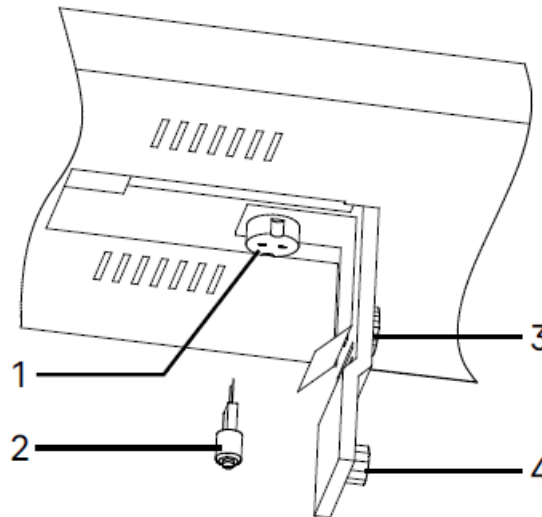

Fig. 19. Replacing the bulb
- loosen the attachment screw 1 and open the cover, as shown in Fig.19